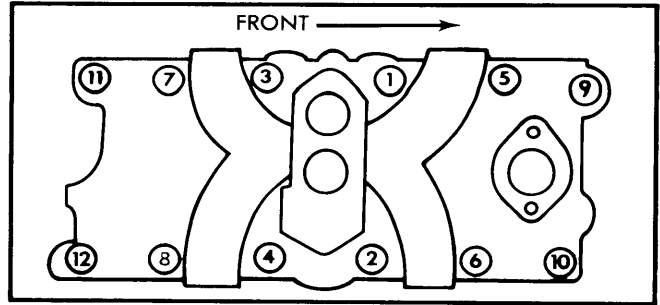

Fig. 1 Intake Manifold Tightening Sequence
2) Position intake manifold on engine. Inspect seals for correct positioning and install attaching bolts finger tight. Tighten caps one through 12 to 25 ft. lbs. in sequence shown in Fig. 1. Then retighten cap screws 1 through 4 to 40 ft. lbs. and follow by retightening the remaining cap screws to 45 ft. lbs. in sequence.